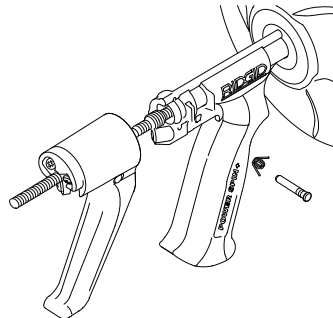

Figure 10 – Trigger Assembly
1. Press non-headed end of pivot pin through the trigger and remove trigger from handle (Figure 10). Do not lose the spring.
10. Install spring and trigger, securing with the pivot pin (Figure 10).